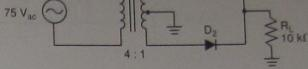

FIGURE 3.53
- Determine the values of $V_{L(\text{pk})}$, V_{ave} , and I_{ave} for the circuit shown in Figure 3.53.
- Determine the PIV of the circuit shown in Figure 3.53.
- Assume that the diodes in Figure 3.53 are both reversed. Determine the new values of $V_{L(\text{pk})}$, V_{ave} , and I_{ave} for the circuit.